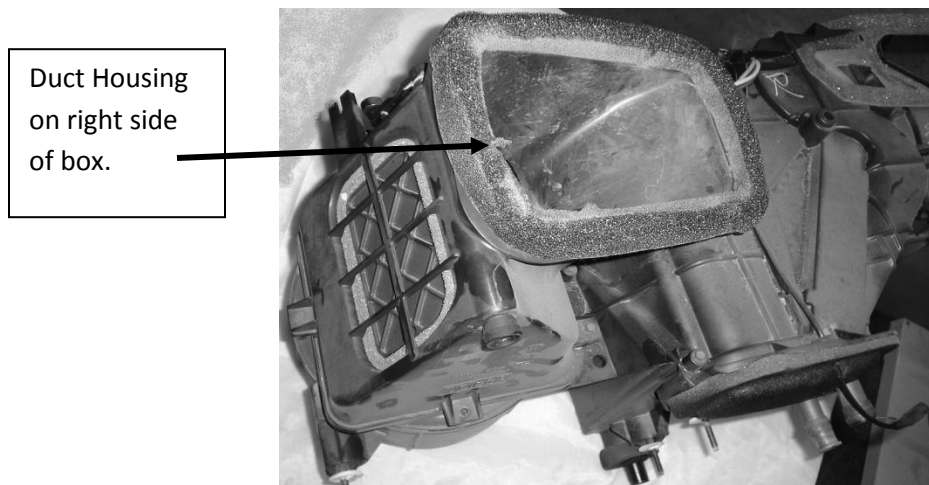

Figure 7.1
2. Top right side of the box is a duct housing (opposite side of blower motor), remove duct-housing Fig. 7.1